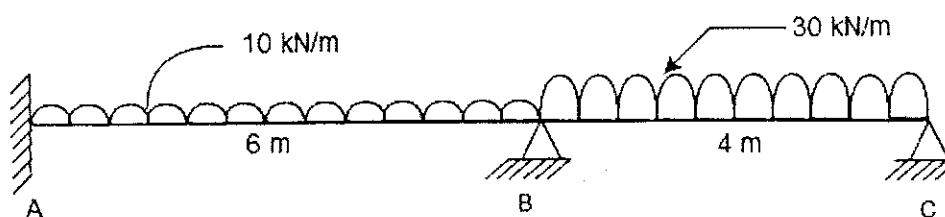

Figure 3
- (b) Analyse the continuous beam shown in Figure 3 by the moment distribution method. Draw the bending moment diagram and shear force diagram. The beam is of uniform section.